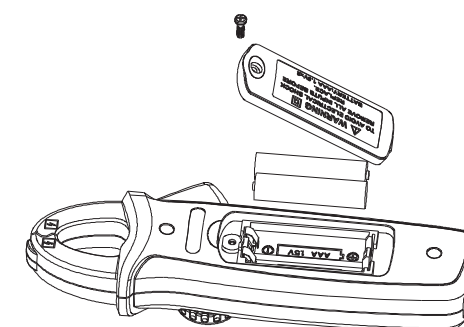

Figure 8
2. Replace battery (see Figure 8)